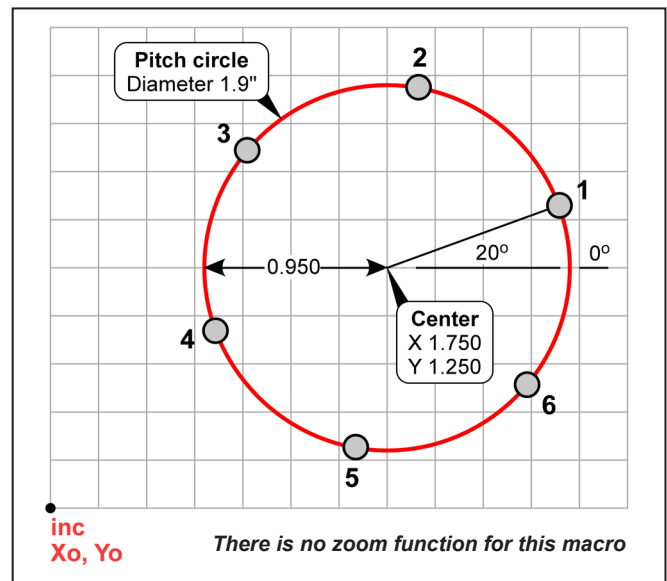

Figure 11 Example of full circle bolt-hole drilling
The bolt-hole program is referenced to X=0 and Y=0 in **absolute** or **incremental** mode, whichever you prefer. Make sure that the reference point (X₀, Y₀) is at the desired location on the workpiece. The numerical values in bold italics refer to the example, Figure 11, following page. The following assumes you are working
Example (1) Figure 11